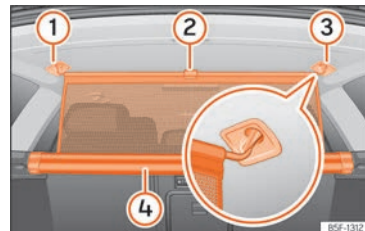

Fig. 138 In the luggage compartment: securing the net partition.
- Pull up handle » Fig. 138 ② to remove the net from the casing ④.
- Hook in the net partition on the right or left side ③ (magnified image).
- Hook in the net partition into the housing on the other side ① by pulling the rod.